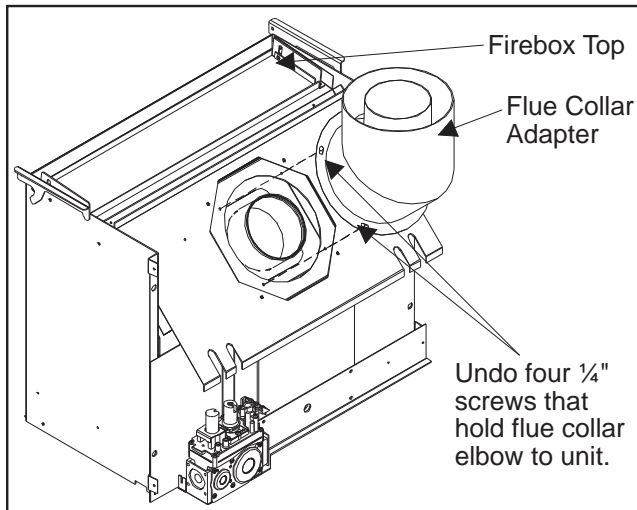

Figure 39: Step 3 of Converting Top Vented into Rear Vented.
2. Remove the four (4) ¼" screws that hold the flue collar elbow to the unit body (see Figure 39).